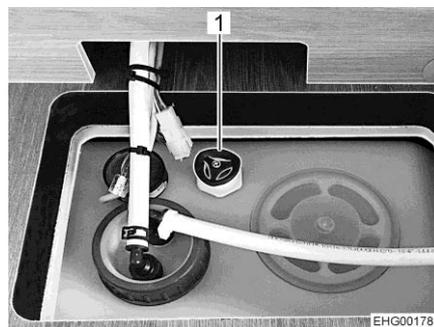

Fig. 142 Water tank with rotary handle
- Turn the rotary handle (Fig. 142,1) on the water tank in a clockwise direction as far as it will go.
- Opening: ■ Turn the rotary handle (Fig. 142,1) on the water tank in an anticlockwise direction as far as it will go. The water drains away except for a residual amount of 20 l.